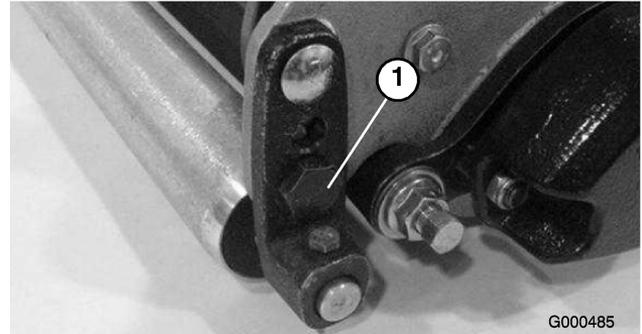

Figure 48
5. While holding reel securely on plate and maintaining pressure on rear roller, rotate lower right roller mounting bolt (Figure 48).
This mounting bolt has an offset, which when rotated, acts as an eccentric (cam) to raise or lower the roller. There is an I.D. dot which denotes the offset of the bolt. Dot indicates in which direction right end of roller moves when bolt is turned and should always be in the rear half of the arc as shown in Figure 48 .